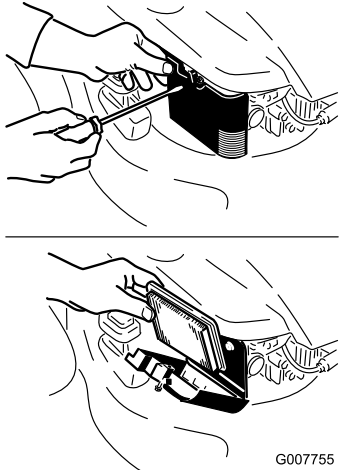

Figure 21
2. Open the air filter cover and remove the old air filter (Figure 21).